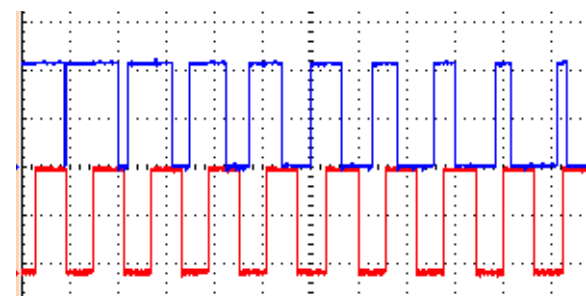

Figure 12b: Phase-shifting Half-R
- The width of the Half-R gate is always 50% of the envelope time. Changing the Skew will change the phase of the Half-R output, but not the width. See Figure 12b.